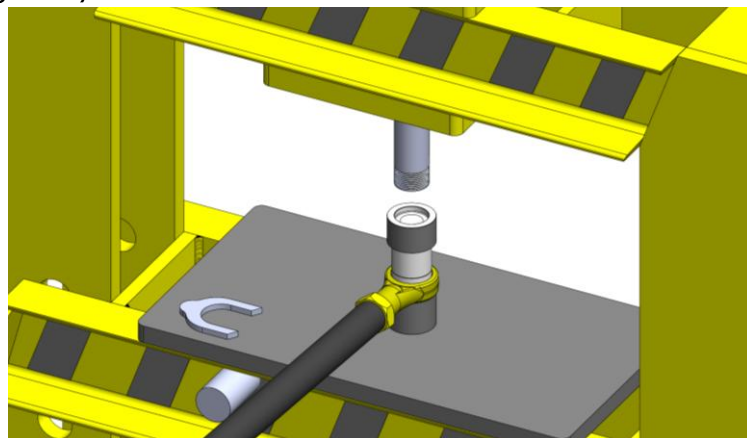

Figure 3: Press tool placed on top of forging
- Place the included press tool directly on top of the worn-out bushing. The cutout in the bottom will slip over the rubber material and internal sleeve (Figure 3).